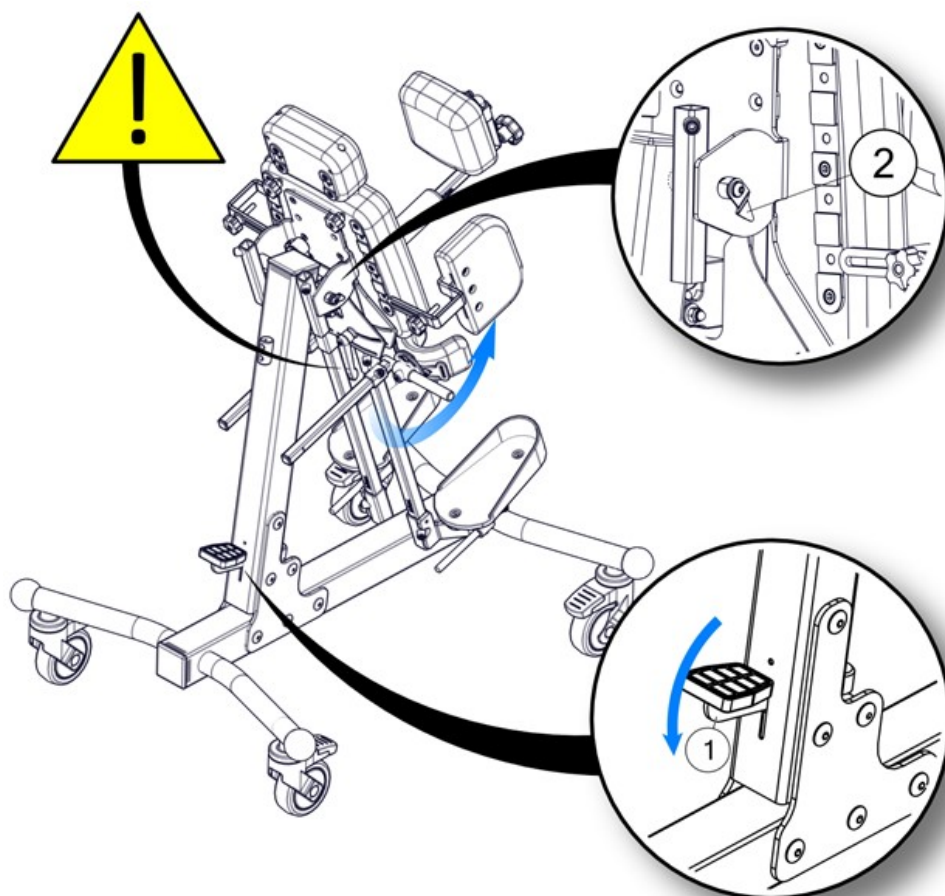

Fig. 15
Placing the patient in the supine standing position (Fig. 15) should be performed with blocked base wheels, as to avoid accidental movement of the device, which could result in an uncontrolled change of the position and injury of the patient. Change of the position is supported with the help of a gas spring, however, during verticalization it is essential to hold the main trunk support. In order to change the angle of the supine standing position of the patient, please press the retarder pedal (1) with your foot, which releases the spring and therefore provides the possibility to perform manual adjustment to obtain the required position. When performing the regulation, it is crucial to pay particular attention to the area between the column, the main trunk support and foot support brackets. No objects can be placed in this area, as they may block the movement of the device and as a result they may even damage the device. In order to block the regulations, release the pedal (1), which blocks the gas spring and immobilises the main trunk support in the given position. The angle of the supine position can be read on an indicator (2). Indicators are placed on both sides of the device.